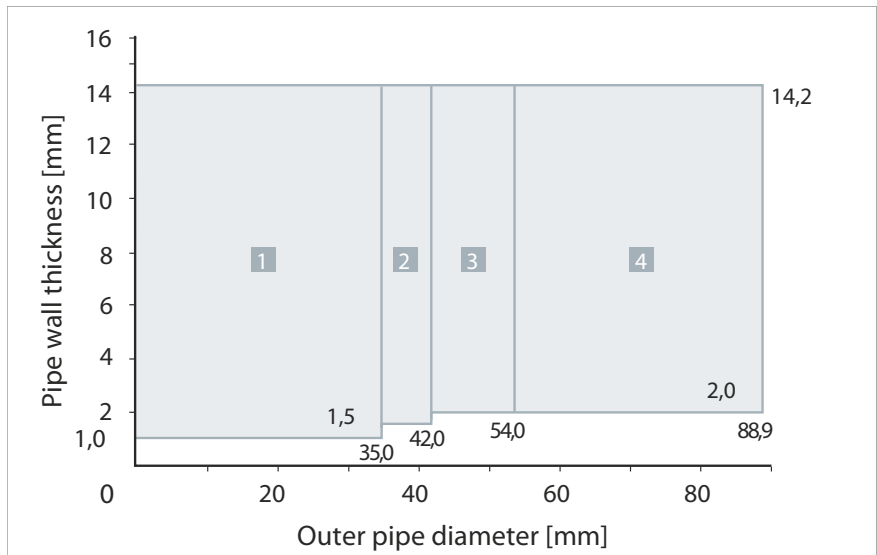

Figure 5: Lengths of AF/Armaflex insulation for non-combustible pipes
- Pipes made of copper, steel, stainless steel and cast iron up to an outer diameter of 88.9 mm are approved and the nominal pipe wall thicknesses Abb. 5 must be complied with.